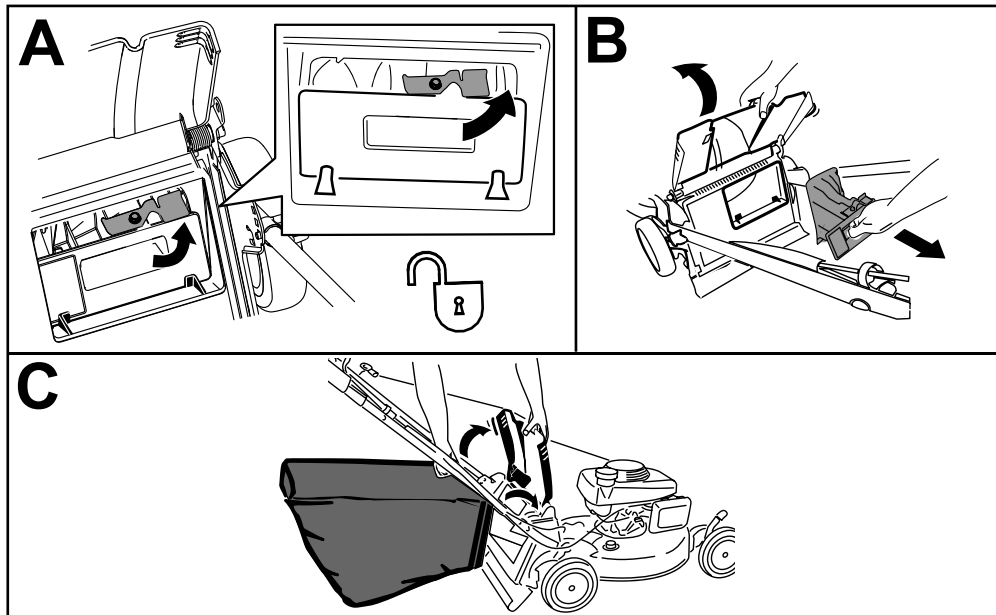

Figure 22
Note: To unlock the rear plug, rotate the lever on the plug to the right (Figure 22).
1. Raise and hold up the rear deflector and unlock the rear plug (A of Figure 22).
2. Pull out the rear plug (B of Figure 22).
3. Hang the upper front edge of the bag from the grass-bag pins on the notches of the handle brackets (C of Figure 22).